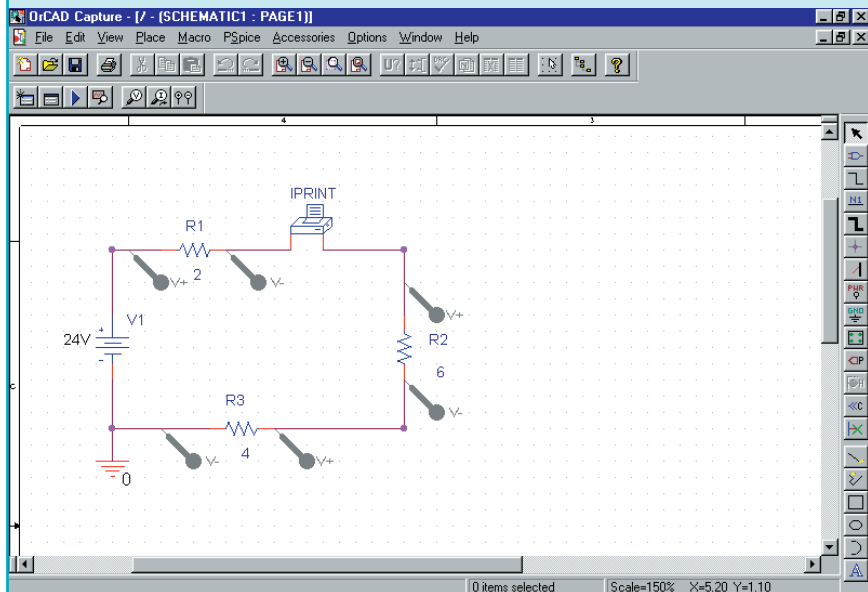

FIGURE 5-54
- You should now be in the Capture schematic editor page. Click anywhere to activate it. Build the circuit as shown in Figure 5-54. Remember to rotate the components to provide for the correct node assignments. Change the component values as required. Remember you will need to change the properties of the IPRINT symbol by going into the Properties Editor and typing **yes** into the DC cell. (Otherwise, you will not get a printout of current.)
- Click the New Simulation Profile icon and enter a name (e.g., **Figure 5-54**) in the **N**ame text box. You will need to enter the appropriate settings for this project in the Simulation Setting box. Click the Analysis tab, and select DC Sweep from the **A**nalysis type list. For this example, we are using a constant circuit voltage. Under Sweep variable, select Voltage source, and type **V1** in the **N**ame text box. In the Sweep type box, select Linear.